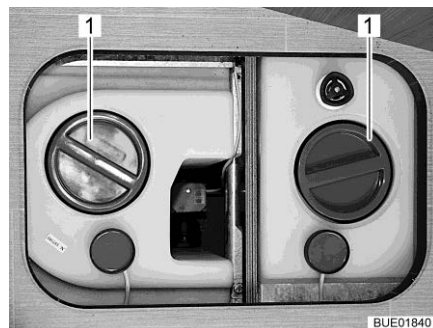

Fig. 212 Water tank with rotary handle
- Remove the cap (Fig. 212,1) of the water tank.